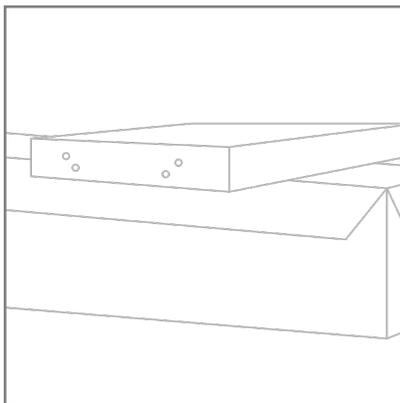

Figure 01.
Step 1: Lay the vertical stand on top of the shipping box with the iCleanse logo facing up (Figure 01.).